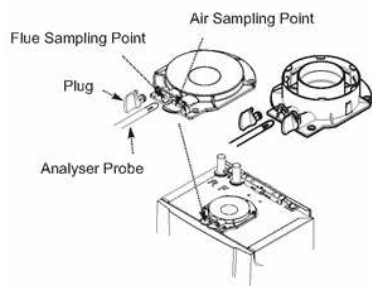

Fig. 63
3. Remove the plug from the flue sampling point (Fig. 63) and insert the probe of the flue gas analyser.